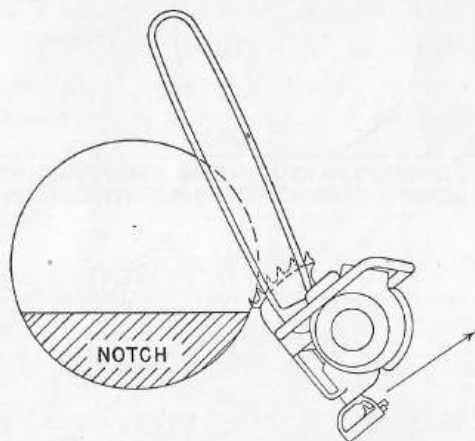

Figure 6—One-Man Felling Cut on a Small Tree
b. One-Man Operation (See Figure 6)
(2) In felling, a notch should be cut in that side of the tree toward which the tree should fall. (See Figure 6.) This notch should be about $\frac{1}{4}$ through the tree. In completing the cut, the spiked bumper plate should be engaged near the corner of the notch about 2 inches above the horizontal cut of the notch. The pivoting action of the saw will make the bottom of the guide bar come parallel to the notch. Do not cut through to the notch. Always leave a section of wood parallel to the notch to act as a hinge.
(3) If the saw stalls or jams in a cut, release the throttle immediately and pull saw free. Start the saw, and when the chain reaches full speed, re-engage into the cut.